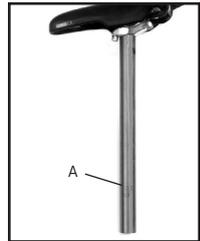

Figure 19- Minimum insertion mark on seatpost
- Make sure the minimum insertion mark on the seatpost (Figure 19) is not visible above the bike frame. A minimum of 2 1/2" (64 mm) of seatpost must remain in the frame.
**A seatpost that is positioned too high can damage the bike and can cause you to lose control and fall. Make sure the minimum insertion mark (Figure 19) is inside the frame.**